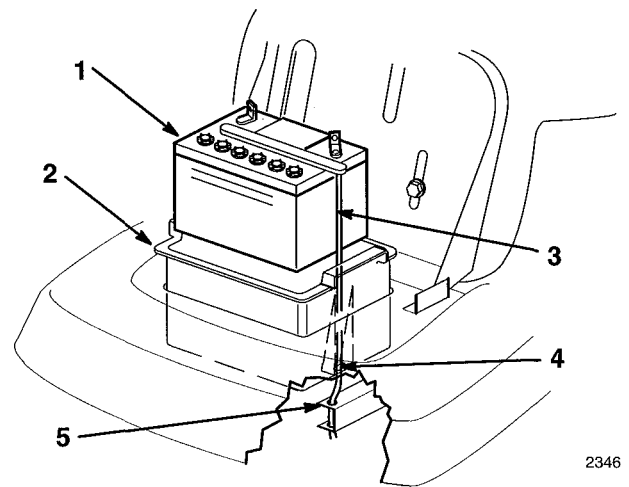

Figure 20
5. Remove the battery box, battery, and long vent tube from the chassis (Fig. 20).
1. Put the battery into the battery box and slide the vent tube into the channel and through the slot in the bottom of the box (Fig. 20).
**IMPORTANT: Look down into the cut out area where the battery box fits into the chassis. Notice the holes at the end of the right frame member (Fig. 20). Always install the long battery vent tube through the holes to prevent battery acid from corroding the tractor and mower.**
2. Install the battery box and battery into the chassis (Fig. 20). Make sure to slide the end of the vent tube through the holes in the frame (Fig. 20).